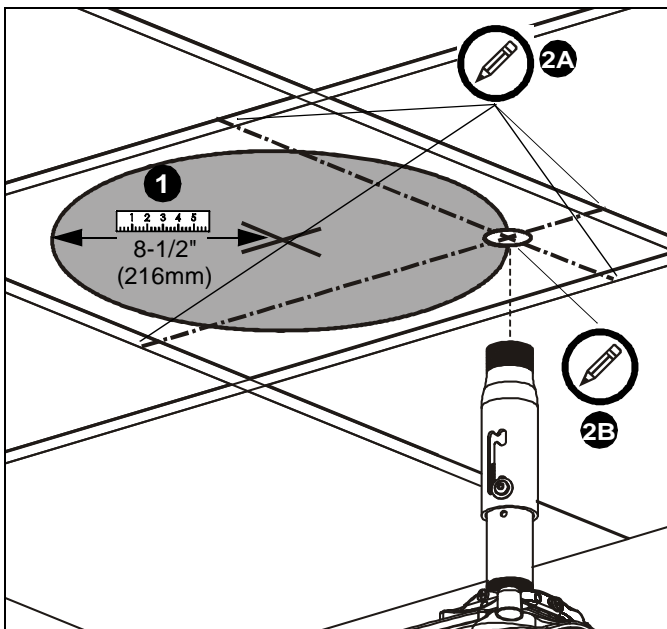

Figure 1
1. Determine exact location of extension column (not included) on suspended ceiling. Ensure column centerline falls within 8-1/2" radius of tile center point. (See Figure 1)
2. Mark location of column determined in Step 1 with pencil (See Figure 1):